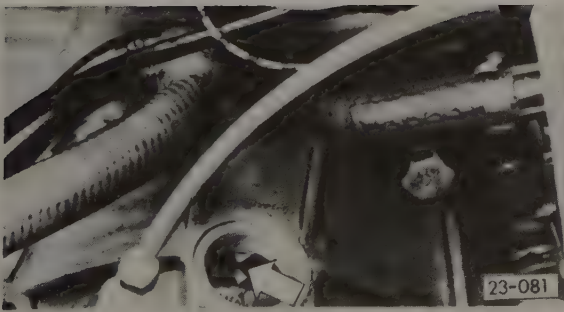

Fig. 5-10. Alignment of marks (arrow) indicating TDC.
3. Using a socket on the crankshaft pulley bolt, rotate the engine by hand to set the No.1 piston at Top Dead Center (TDC), and remove the pulley from the crankshaft. Check TDC removing the plug from the top of the flywheel bellhousing and aligning the marks on the flywheel, as shown in Fig. 5-10. Both valves for No. 1 cylinder should be closed (both cam lobes pointing approximately upward).